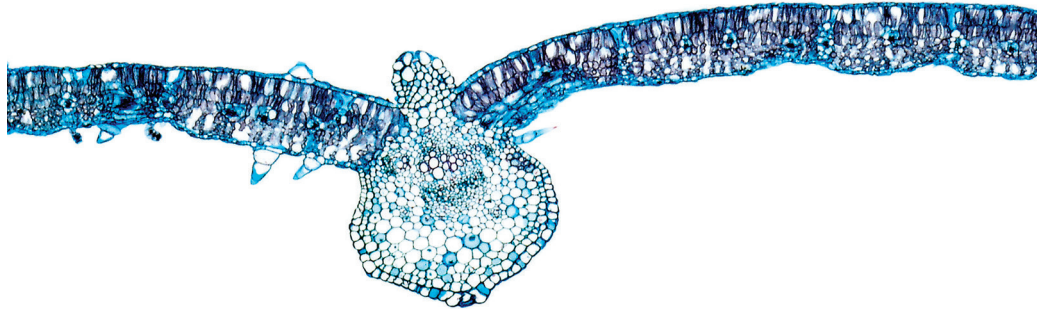
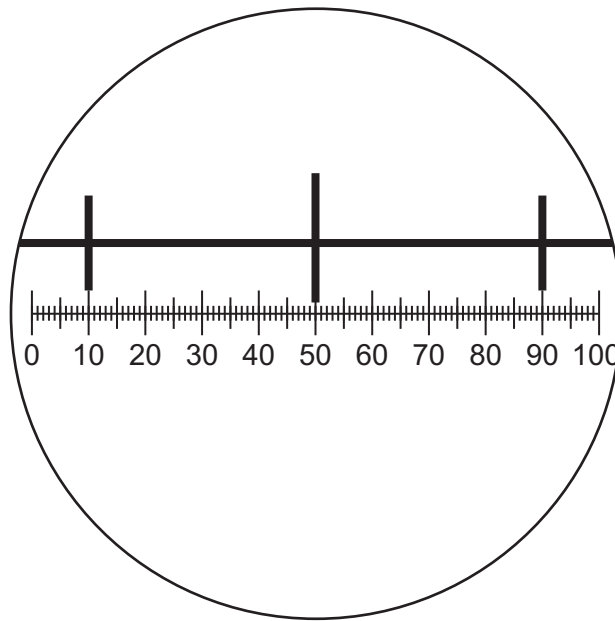
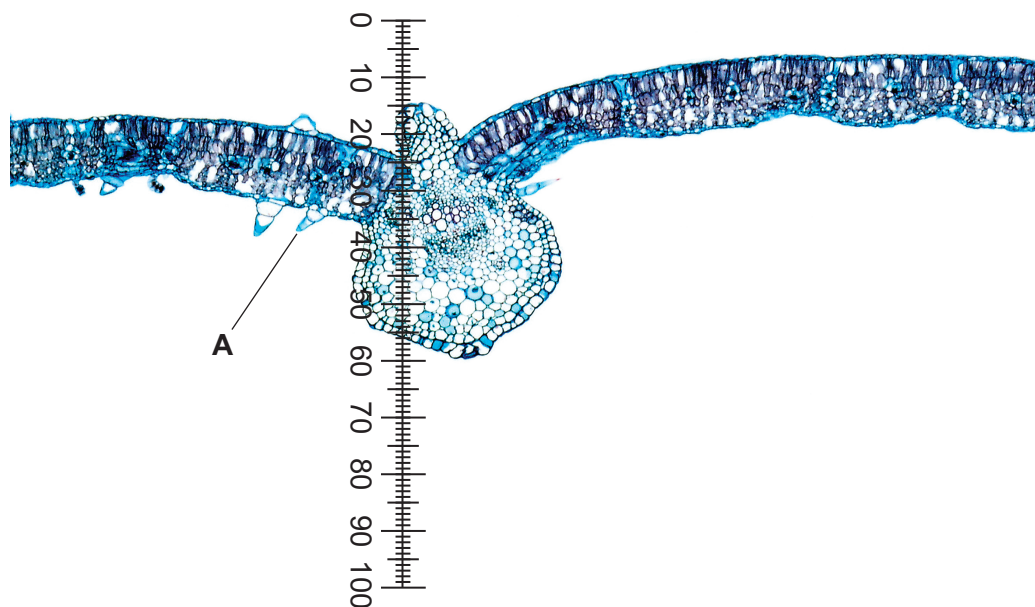

Fig. 2.2
Fig. 2.3
Fig. 2.4
- (b) Fig. 2.2 is a photomicrograph of a stained transverse section of a different leaf from **M1**.
Identify **three** observable differences, other than colour, between the leaf section in Fig. 2.2 and the leaf section on **M1**.
- (c) Fig. 2.3 shows a diagram of a stage micrometer scale that is being used to calibrate an eyepiece graticule.
- (i) Use Fig. 2.3 to calculate the actual length of one eyepiece graticule unit.
Fig. 2.4 is the same photomicrograph as that shown in Fig. 2.2. This was taken using the same microscope and eyepiece graticule as in Fig. 2.3.
- (ii) Use the calibration of the eyepiece graticule unit from (c)(i) to calculate the actual thickness of the midrib of the leaf section in Fig. 2.4.
- (iii) Suggest a possible function of the structure labelled **A** in Fig. 2.4.